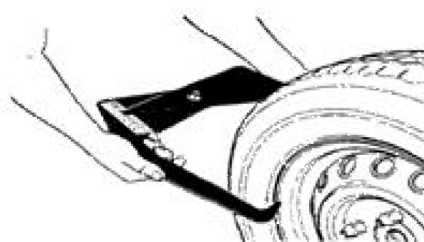

Fig.2
■ Use width gauge to read the value of width (Fig. 2), press **b+** and **b-** to change, set “b” value.